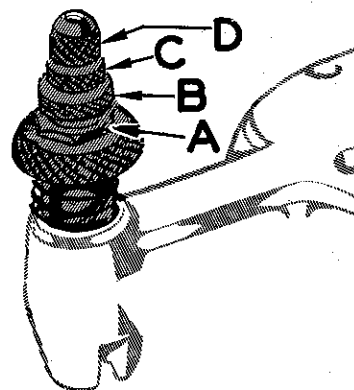

Fig. 2
Sufficient pressure to feed work uniformly should be maintained. Should it be necessary to increase or decrease amount of pressure on presser foot, loosen lock nut (A, Fig. 2) and turn adjusting screw (B). Adjusting screw has a right hand thread; so tightening increases pressure, loosening decreases pressure. When pressure adjusting screw (B) has been properly set, tighten lock nut (A). With presser foot resting on throat plate, position locking nut (C) so that its under surface is approximately $1/32$ inch to $1/16$ inch from the top surface of adjusting screw (B). Set cap (D) against locking nut (C).